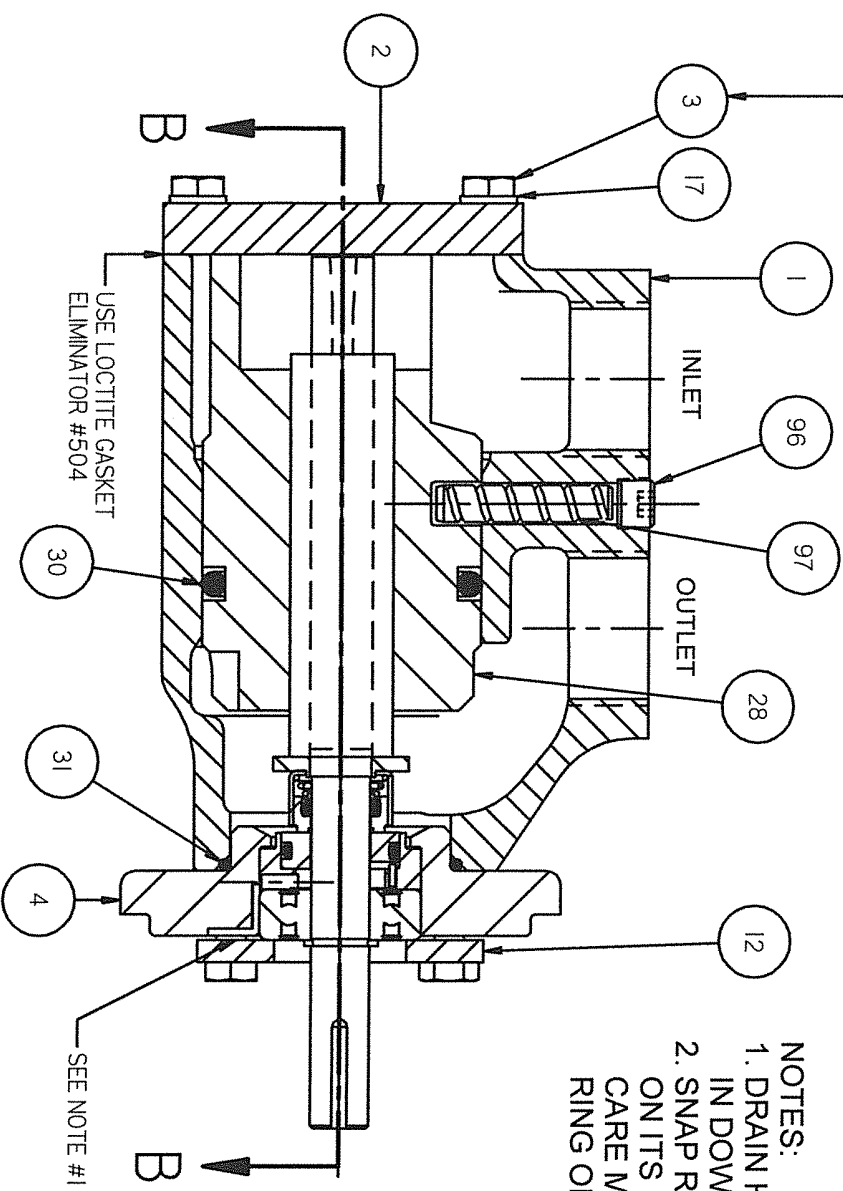

FIGURE 6
- a. Remove bolts (3) and lockwashers (17, steel case only), then remove cover (2). Clean Loctite gasket eliminator from cover (2) and pump flange.
- b. Steel case pumps only (Figure 6, or 7): Remove plug (96) and anti-rotation pin (97). Pull housing (28) from case (1) bore, and then remove O-ring (30) from housing (28).
- a. Steel case pumps only (Figure 6 or 7): Slide O-ring (30) in housing (28) O-ring groove. Align anti-rotation hole in housing (28) with case (1) anti-rotation pin hole and slide housing (28) in case (1). Install anti-rotation pin (97) and plug (96).
- b. Iron and Steel case: Wipe all traces of oil from mating flange of cover (2) and pump, then apply a thin coat of Loctite gasket eliminator No. 504 to both cover (2) and pump flange. Install cover (2) on pump using the lockwashers (17, steel case only) and bolts (3). Tighten bolts (3) to a torque value of 70 lbs.-inch (\pm 5 lbs.-inch) [8 newton-meters (\pm 0.5 newton-meters)].